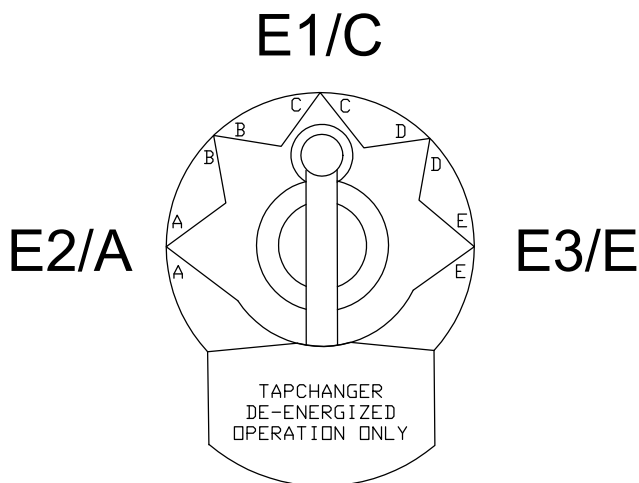

Figure 18. PT tap-changer with stencil markings.
2. A no-load tap-changer switch may be supplied inside the cabinet of the voltage regulator. The switch will look similar to that shown in Figure 18. The stenciled marking near the tap changer shows the PT tap position and tap changer switch position separated by a slash. For example, the marking E1/C would indicate that the E1 PT tap is connected by having the tap switch in the C position.